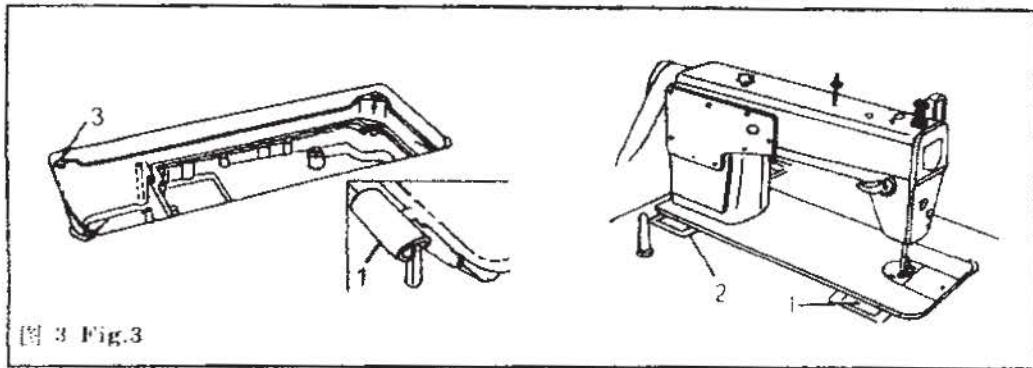

图 3 Fig.3
将机头连接钩 1 插入机壳底板孔内，与台板上的机头连接钩座 2 相嵌合，再将机头放到四只角的机头座垫 3 上。 (图 3)
Put the machine head connecting hooks (1) into the bed holes to engage respectively two hinges (2) stated in the table, then place the machine on the four cushions (3). (Fig.3)